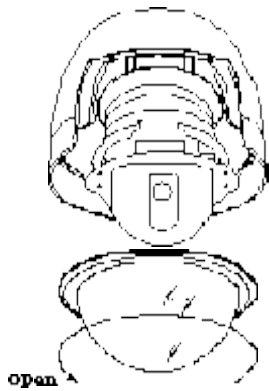
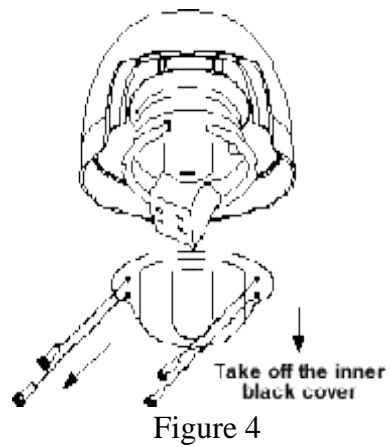

Figure 3
Figure 4
- 1) Turning the dome cover anticlockwise (Figure 3) and take out the inner black cover (Figure 4).